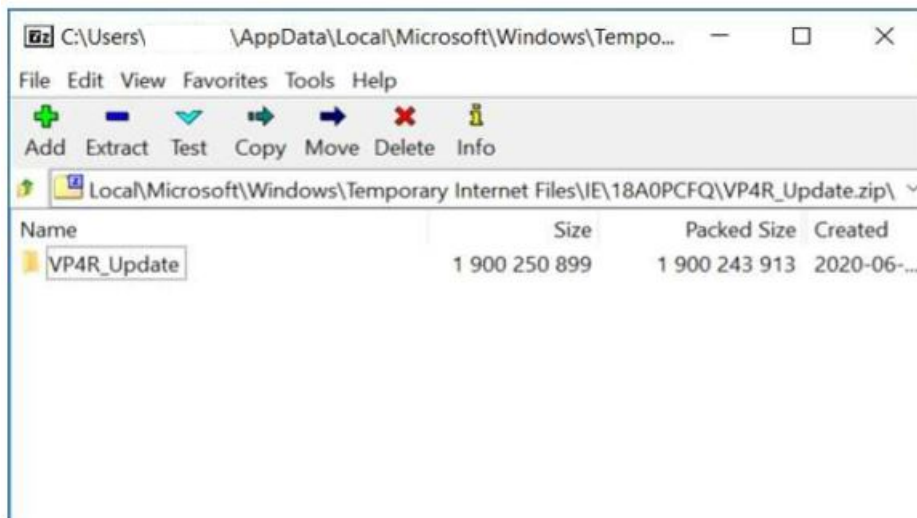

Fig. 3
7. Unzip the file to the root folder of USB flash drive. File should not be within a zip folder. Your USB file should look like (Fig. 3) when you open it.